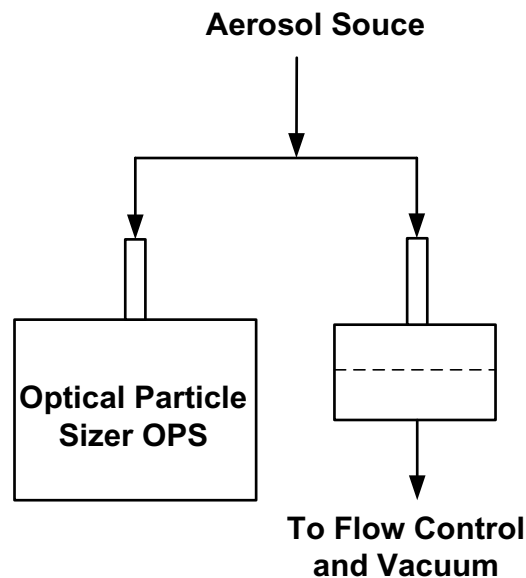

Figure 1. Experimental setup for gravimetric calibration
4. Co-locate the two instruments as shown in figure 1.